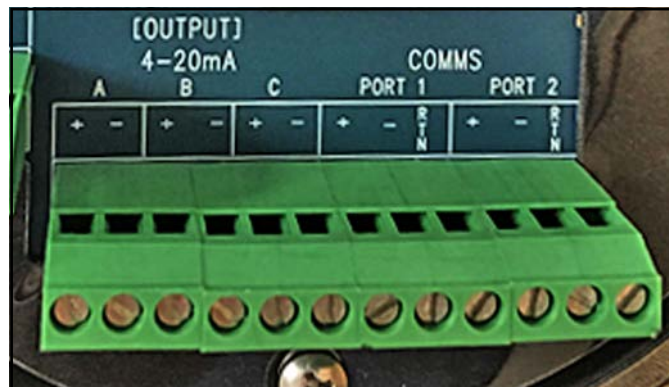

Figure 28: Input/Output Connections
- For operation on RS-232, connect RS-232(TXD) to (+), RS-232(RXD) to (-), and RS-232(GND) to RTN (see Figure 28 below).